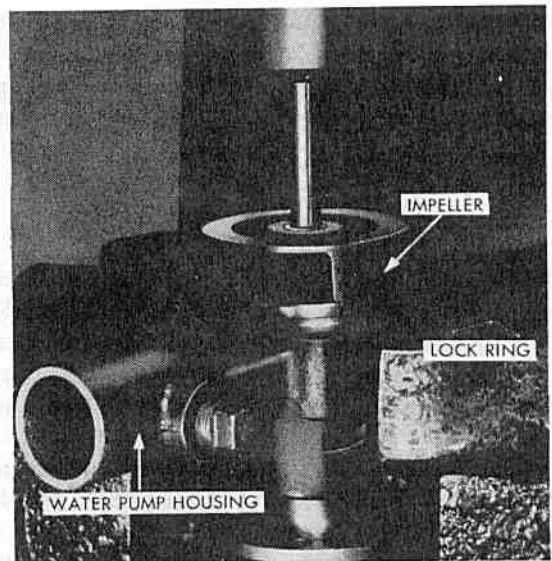

FIG. 84
**CHAMPION AND COMMANDER** The bearing lock ring must be removed before the water pump can be disassembled. The shaft and bearing assembly can then be pressed out of the water pump impeller and on out the front of the housing (see Fig. 84).